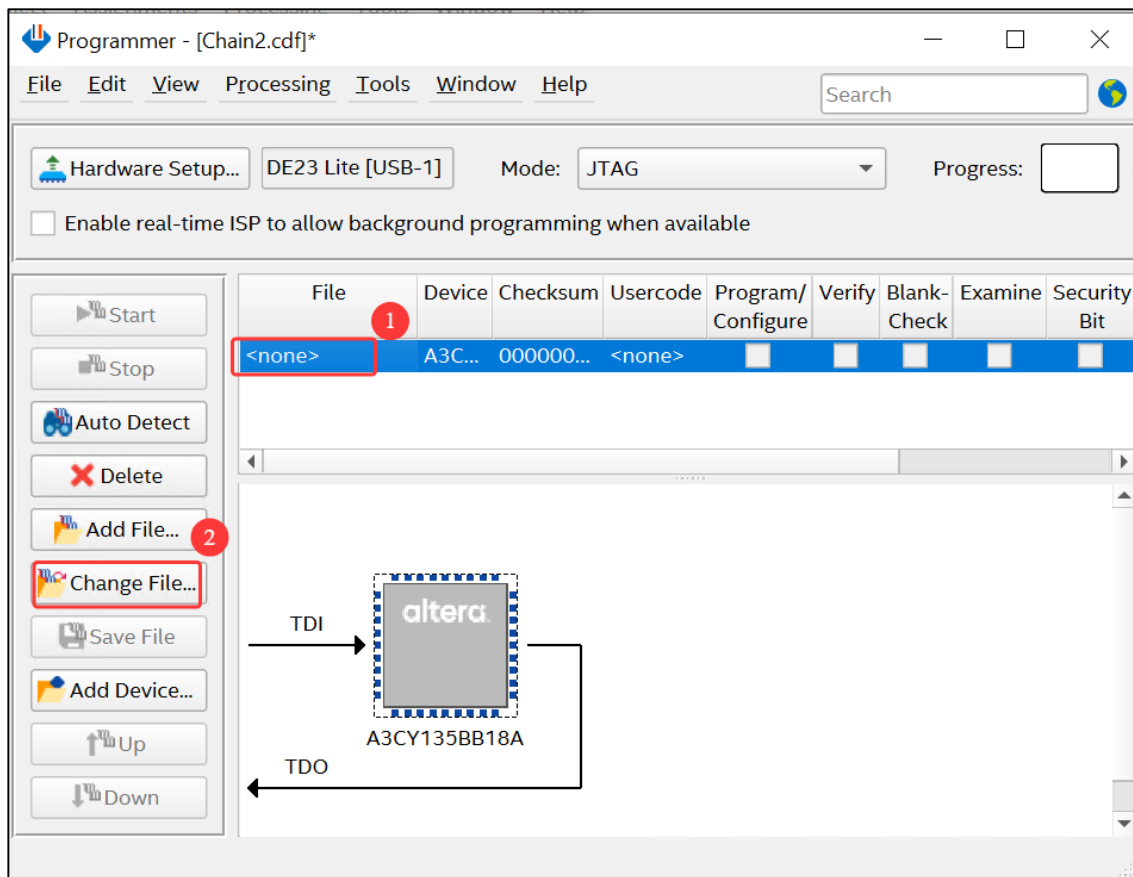

Figure 3-6 Open the .sof file to be programmed into the FPGA device
5. Right click on the FPGA device and open the .sof file to be programmed, as shown in Figure 3-6.